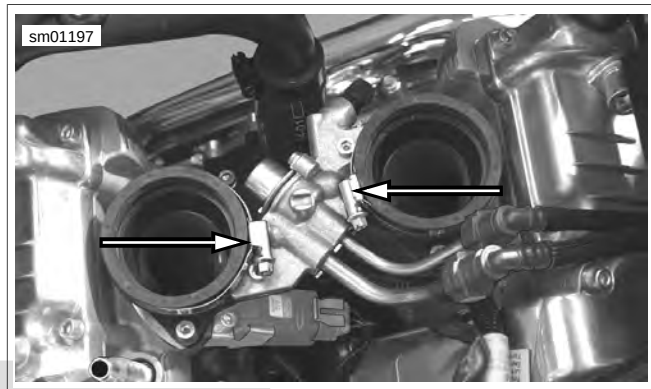

Figure 4-10. Throttle Body Intake Clamps
8. See Figure 4-10. Orient throttle body intake clamps as shown.